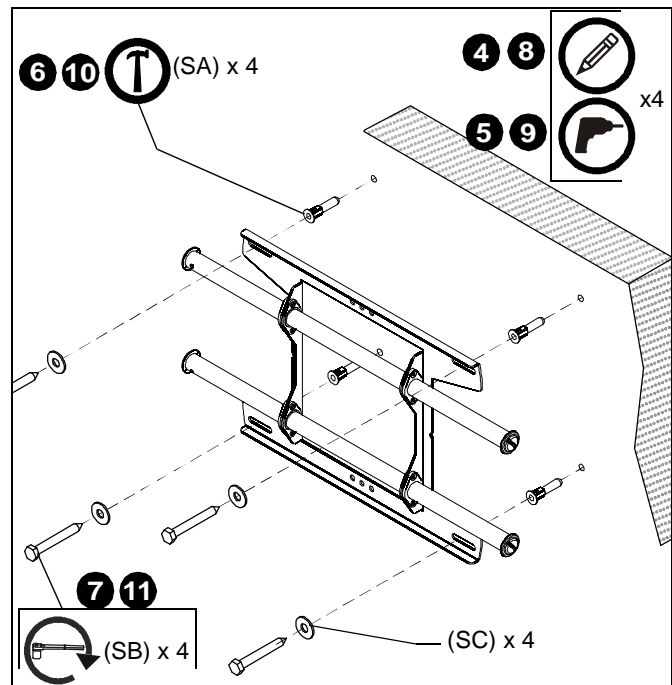

Figure 4
4. Using a level, mark the wall through both upper mounting slots. (See Figure 4)
6. Install an anchor (SA) into each pilot hole using a hammer.
7. Use two 5/16 x 2-1/2" lag bolts (SB) and two 5/16" flat washers (SC) to attach top of mount to anchors in wall.
8. Mark the attachment points for the lower mounting slots. (See Figure 4)
9. Drill one 5/16" (7.9mm) pilot hole at each marking for lower mounting holes. (See Figure 4)
10. Install an anchor (SA) into each pilot hole using a hammer.
11. Use two 5/16 x 2-1/2" lag bolts (SB) and two 5/16" flat washers (SC) to attach the mount to the wall through the lower mounting holes. (See Figure 4)